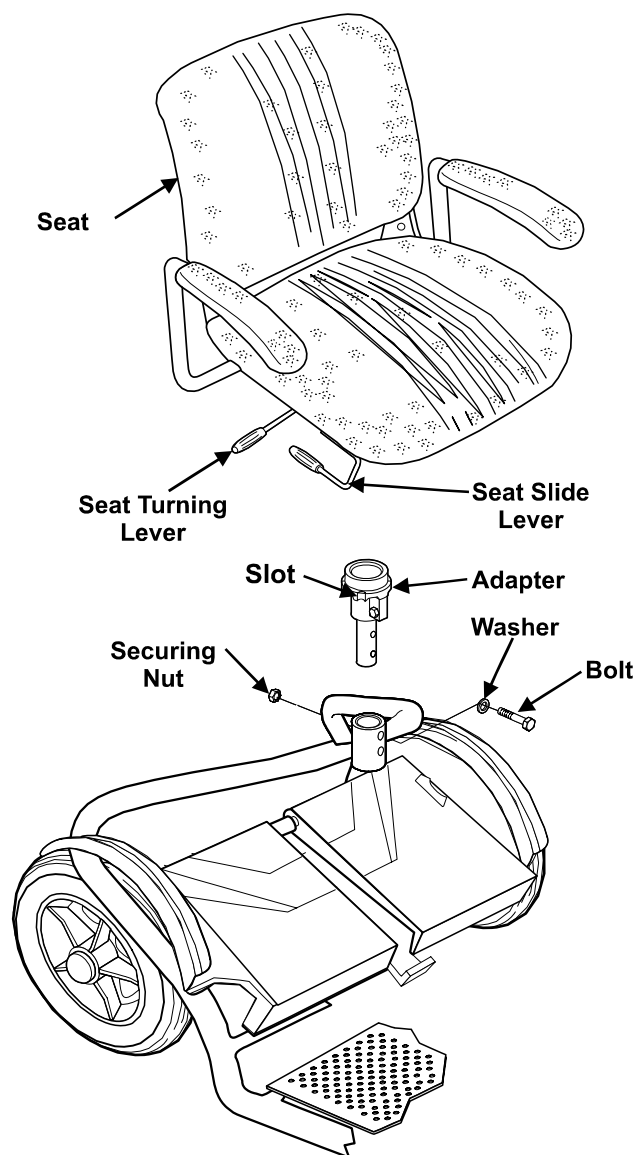

Figure 7.
2.5 Seat Installation (Figure 7)